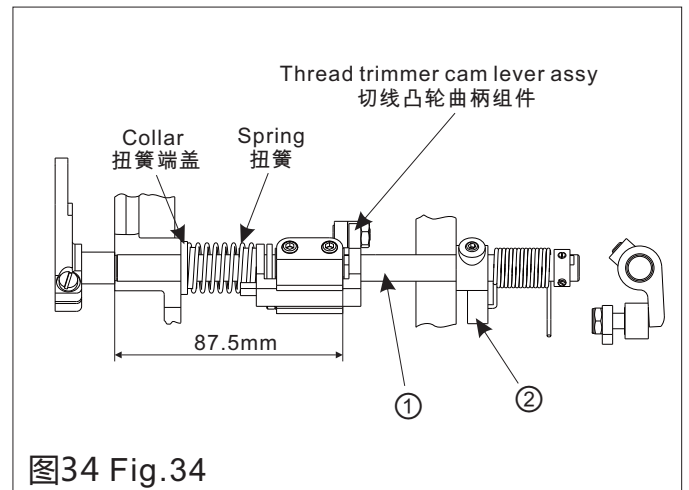

图34 Fig.34
- 1)The clearance between fixed knife ① and movable knife ② should be 0.3mm
- 2)Adjust the position illustrated by the Fig.34.
### 3. 凸轮曲柄轴 (图34)
### 3. Thread trimmer cam lever shaft (Fig.34)